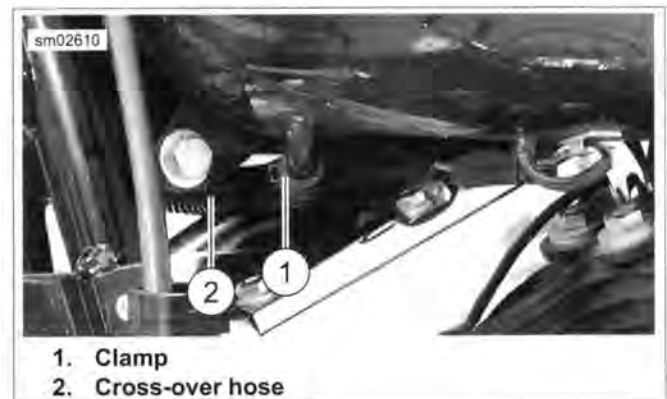

Figure 4-32. Fuel Cross-over Hose
- b. See Figure 4-32. Cut clamp (1) from one end of cross-over hose (2). Quickly replace cross-over hose on fuel tank fitting with open end of short hose while directing flow of gasoline from free end of cross-over hose into suitable container.